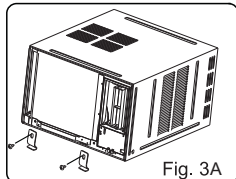

Fig. 3A
- Remove the two screw on the left and right chassis fixing brackets, then remove the two chassis fixing brackets as shown in Fig.3A.
- Fix the screws on the frame (See Fig.3A,3B,3C,3D).